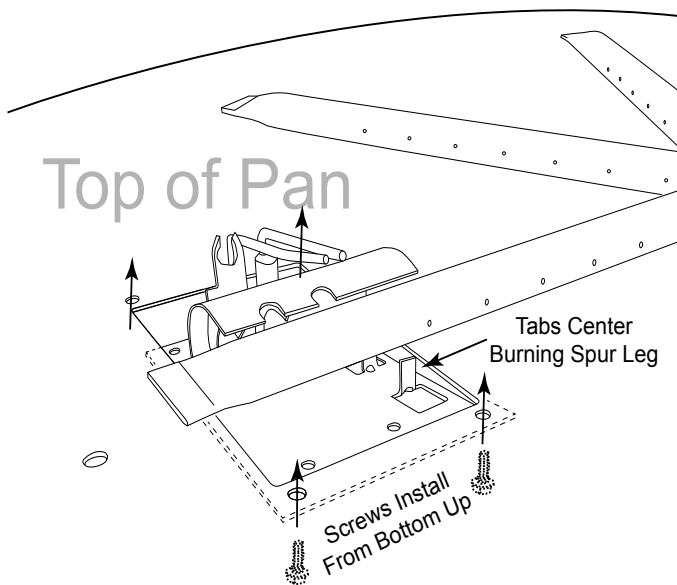

Fig. 15 Installing screws from bottom of pan.
Step 3: Install the MSI ignition assembly from the bottom of the pan as shown in Fig. 143. **Note:** The hood will slide over top of the burner leg as shown in Fig. 15.